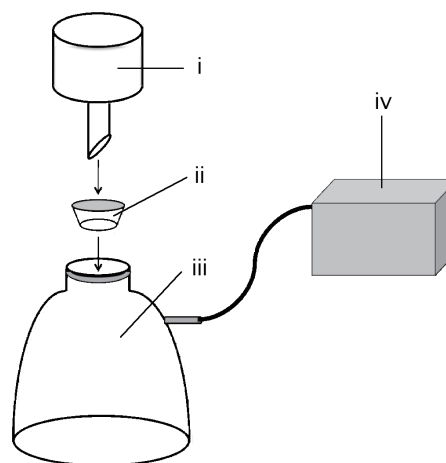

Fig. 1.3 Suction filtration equipment: i, Büchner funnel; ii, rubber adapter; iii, suction flask; iv, diaphragm vacuum pump.
(6) Set up the suction filtration equipment (see Fig. 1.3).